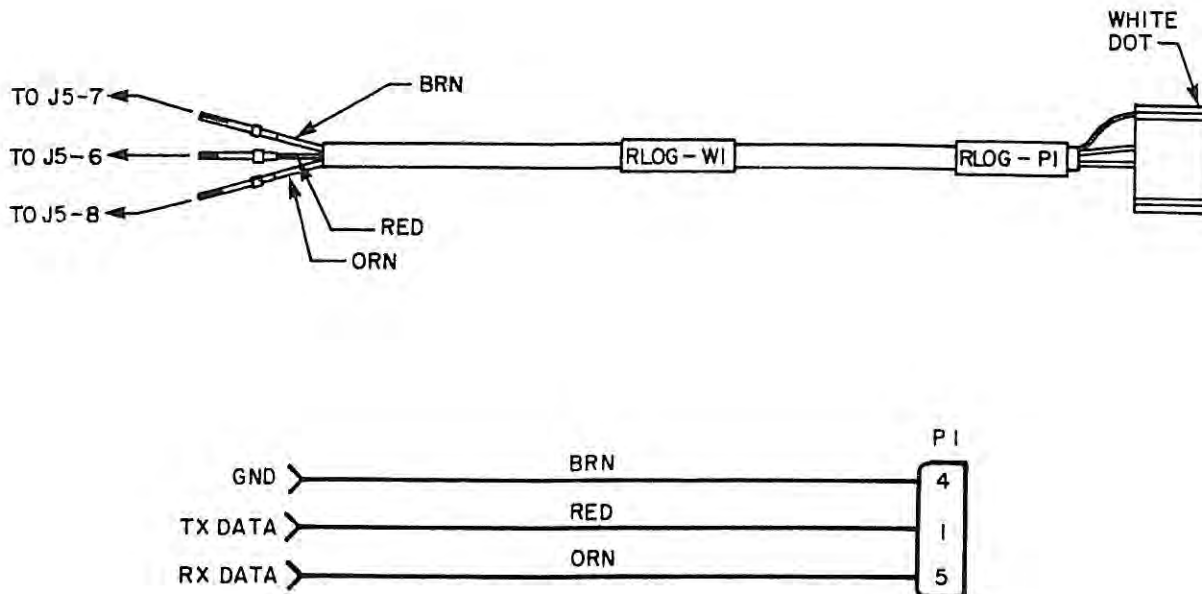

Figure J-1. RLOG Cable Pin Configuration
3. Refer to **Figure J-1** for the installation of the three pins of the RLOG cable (RLOG-W1) into connector J5. Insert the three pins into the back side of connector J5. Press the pins in straight and apply firm pressure until the pins are properly seated in the connector. Insert the three wires according to the following steps: